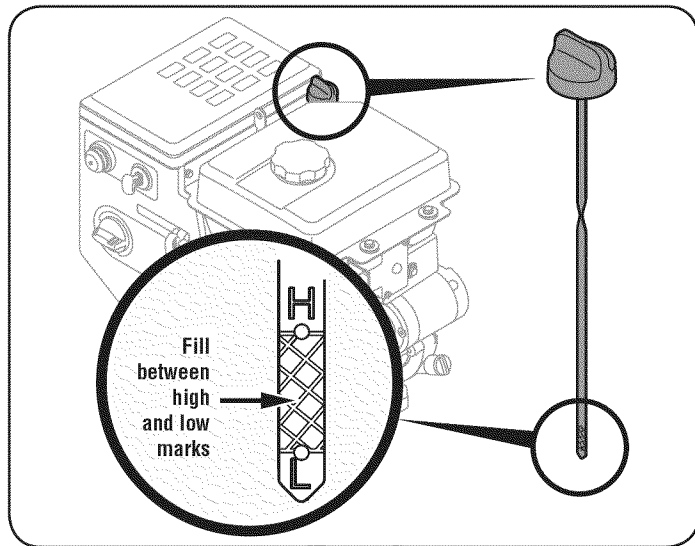

Figure 10
- Keep oil level between “H” and “L” marks on dipstick. See Fig. 10.
1. Remove the oil filler cap/dipstick and wipe the dipstick clean. See Fig. 10.
3. Remove the oil filler cap/dipstick. If the level is low, slowly add oil until oil level registers between high (H) and low (L), Fig. 10.